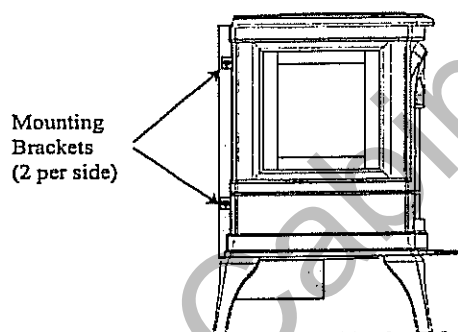

Figure 1: Side view of the fireplace showing the firebox mounting brackets.
4. Locate the firebox mounting brackets on the side of the firebox. Remove the screws securing the firebox to the mounting brackets, See Figure 1.